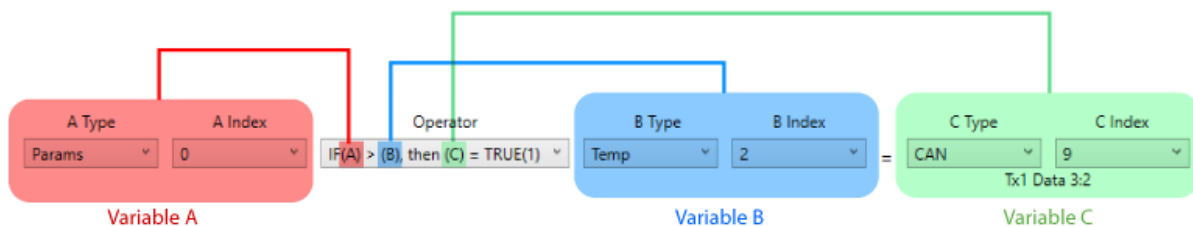

Figure 13
In a Configurator instruction, the module parameter that Variable A, B, or C represents is specified by a Type field and an Index Number field. Thus, each variable appearing in an operation has two drop-down menus associated with it. For example, in Figure 13, the user has selected *IF (A) > (B), then (C) = TRUE(1)* as the Operator. As a result, the row was populated with drop down menus for variables A (highlighted in red), B (highlighted in blue), and C (highlighted in green).
The module parameters available through the Type and Index drop-down menus in Figure 13 are presented on the pages below. Note that each parameter value is 16 bits.